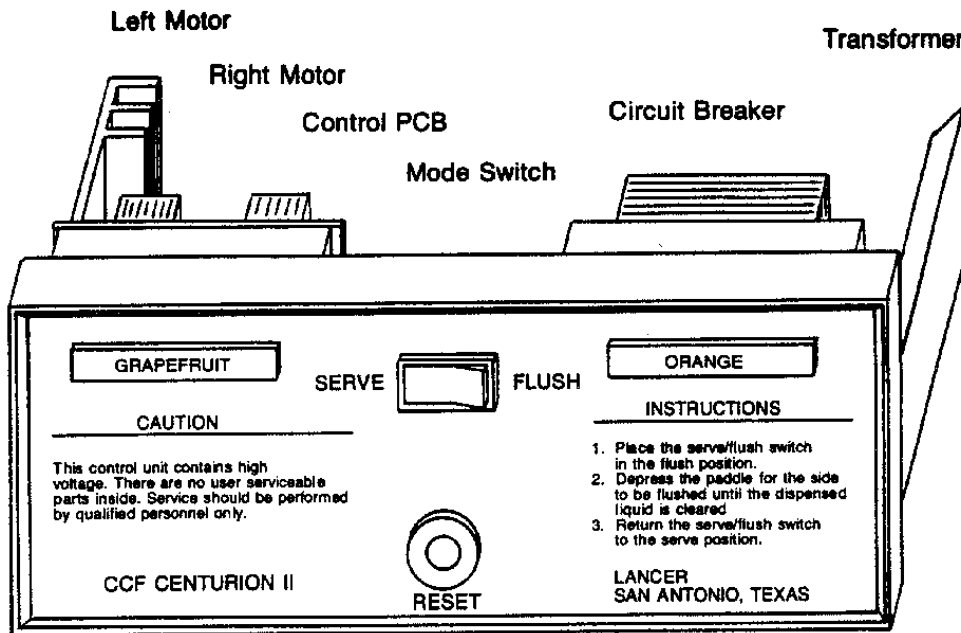

Figure 1 - Motor Speed Controls and Flush Switch.
- D. To adjust the °Brix, loosen two (2) screws on face of control panel until control panel can be pulled partially out of control housing. Screws are captive and can be used to pull control panel from control housing. On the main control printed circuit board (PCB) are two adjusting knobs which control the °Brix of the left and right sides. The control on the left side (facing the control panel) controls the left motor and the right control is for the right motor (refer to Figure 1).